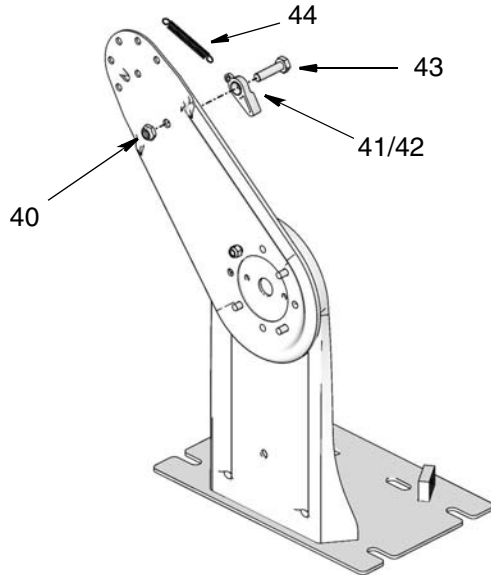

FIG. 8
12. Remove nut (40) and bolt (43), bushing (41), pawl (42) and spring (44) from arm (FIG. 8). Discard these parts. Use new parts included in the kit for reassembly.